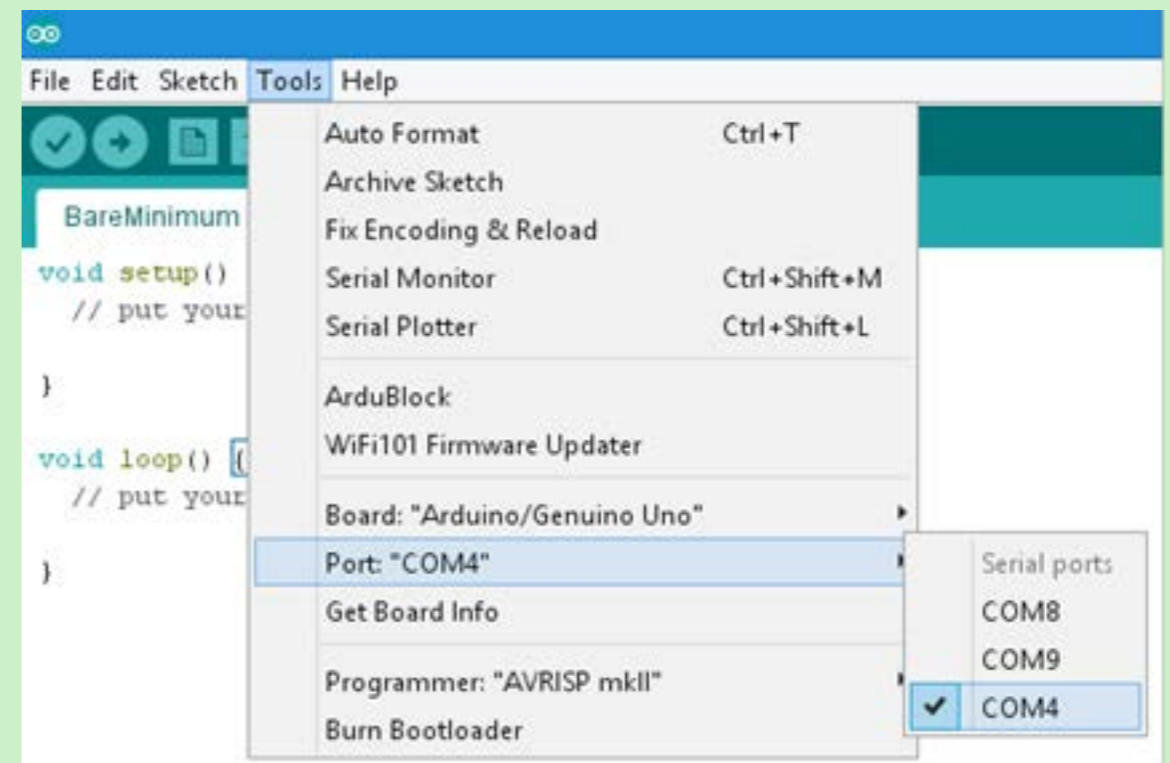

Figure 15. How to check for port connection under the Tools menu (PC screenshot)
- You should see a *tick* next to one of the *serial ports* listed (this looks slightly different on a MAC and Linux computer, but the process is much the same) [see **Figure 15**].